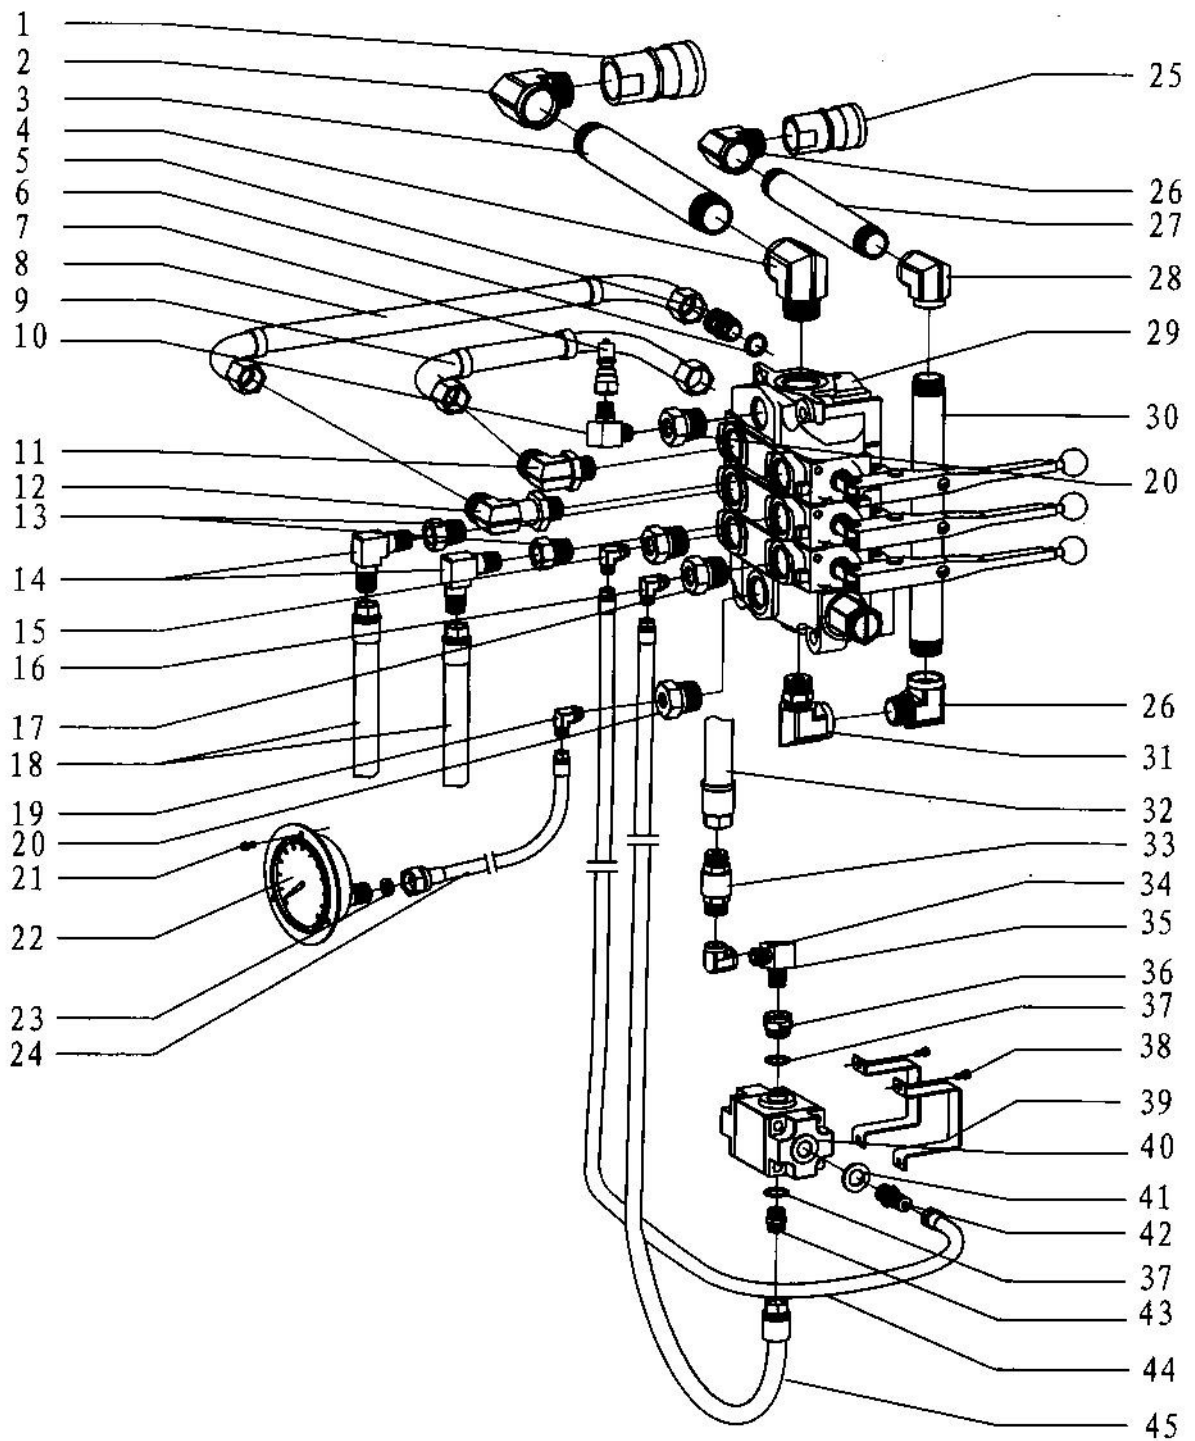

Fig. 12
- Hydraulic pipeline (Fig 12, Table 9)